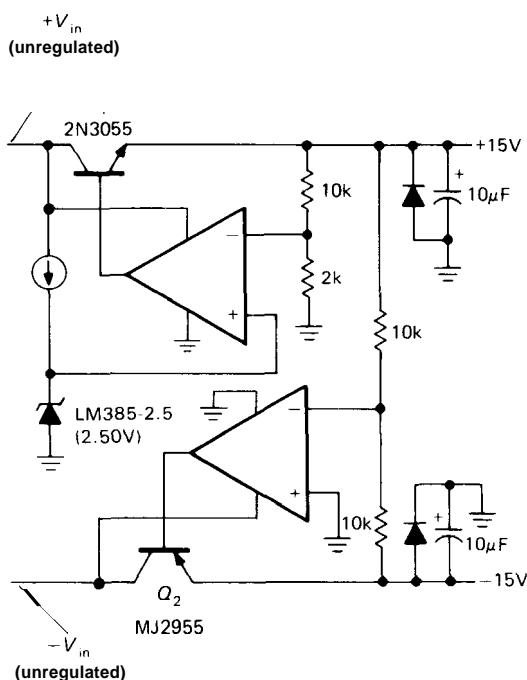

Figure 6.34. Dual-tracking regulator.
- **Dual tracking regulators.** Given the need for regulated split supplies, you might wonder why there aren't "dual 3-terminal regulators." Wonder no more - they exist and are known as "dual tracking regulators." To understand why they have such a complicated name, take a look at Figure 6.34, which shows the classic dual tracking regulator circuit. Q_1 is the pass transistor for a conventional positive regulated supply. The positive regulated output is then simply used as the reference for a negative supply. The lower error amplifier controls the negative output by comparing the average of the two output voltages with ground, thus giving equal 15 volt positive and negative regulated outputs. The positive supply can be any of the configurations we have already talked about; if it is an adjustable regulator, the negative output follows any changes in the positive regulated output. In practice, it is wise to include current-limiting circuitry, not shown in Figure 6.34 for simplicity.